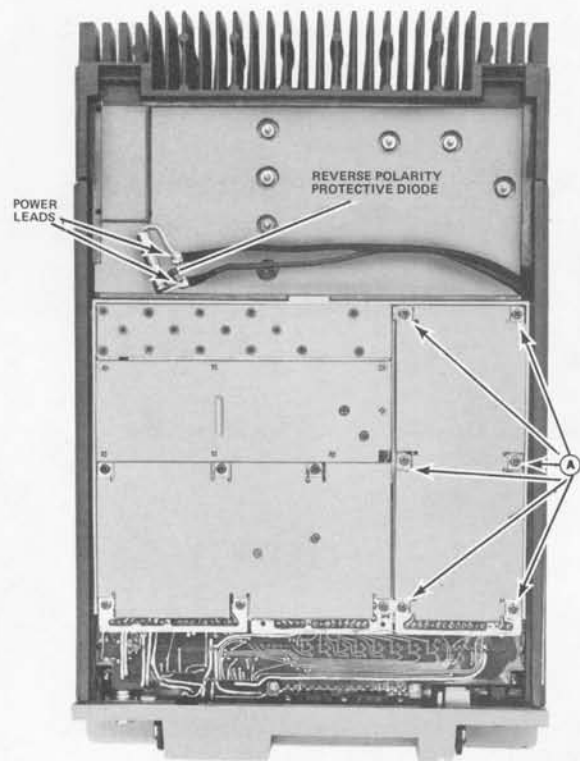

Figure 3 - Disassembly Procedure
3. To gain access to the bottom of the exciter board, remove the six screws (A) holding the exciter board and its bottom cover to the module mounting frame, and remove the bottom cover (See Figure 3).
2. Remove the six screws (A) holding the exciter board and its bottom cover to the module mounting frame. (Figure 3)